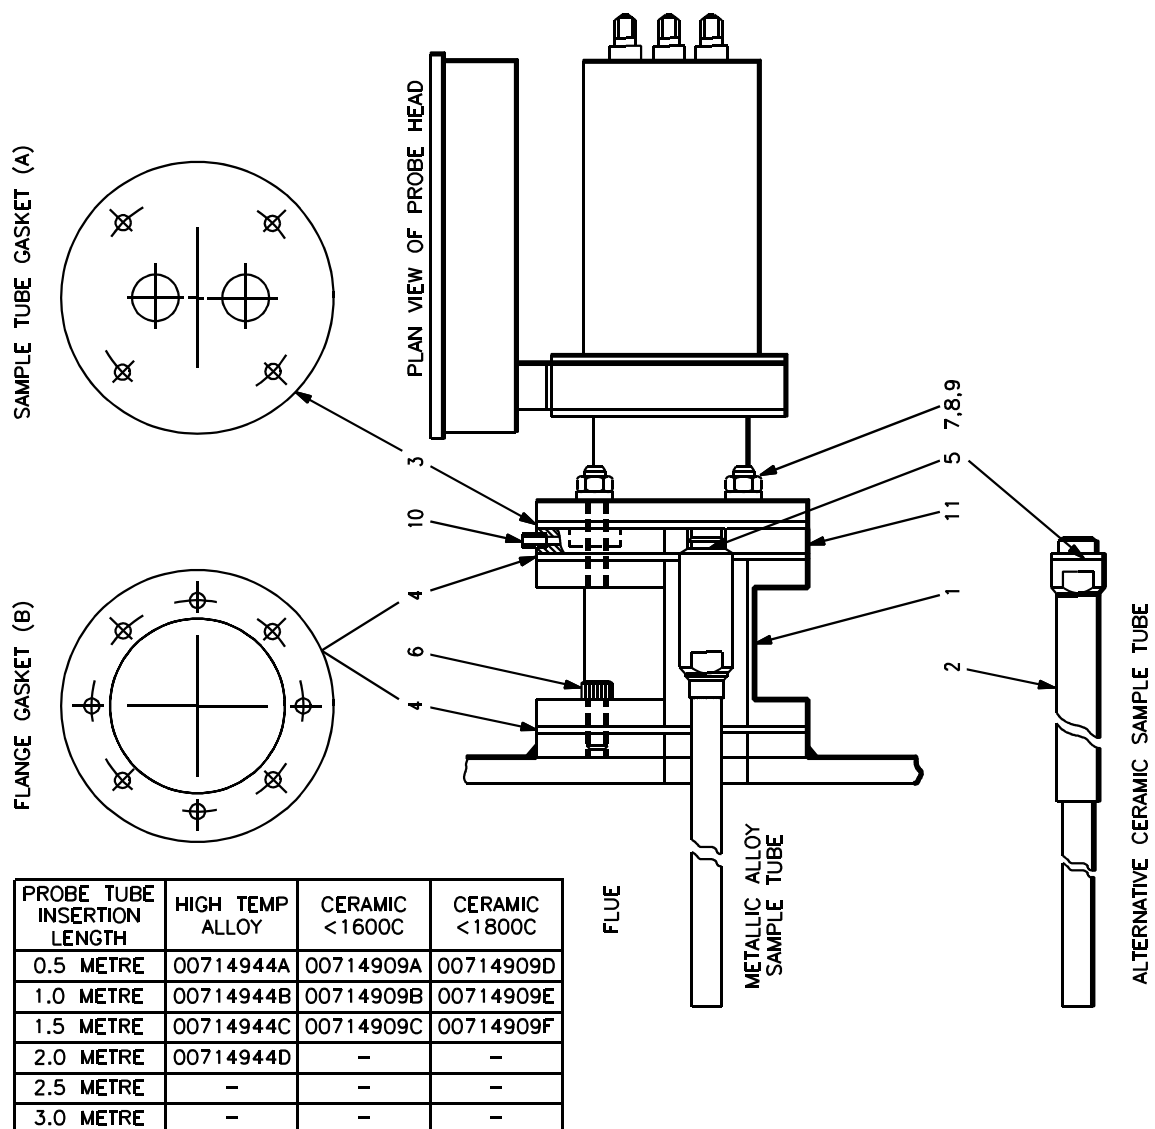

Figure 3.25 Installation of High Temperature Probe with Stand-off
3.9.5 High Temperature Probes with Stand-off See Figure 3.25.